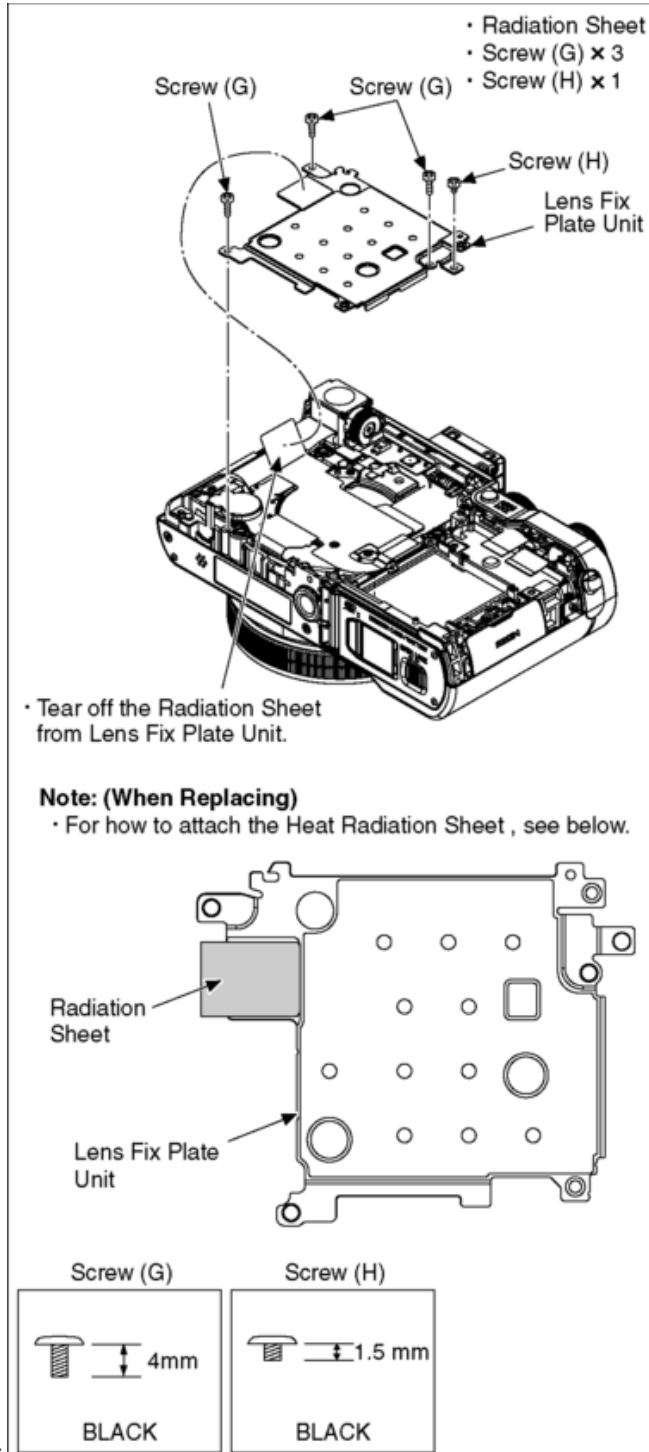

Fig. D7
| 5 | Lens Fix Plate Unit | (Fig. D7) | Radiation Sheet Screw (G) × 3 Screw (H) × 1 Lens Fix Plate Unit |